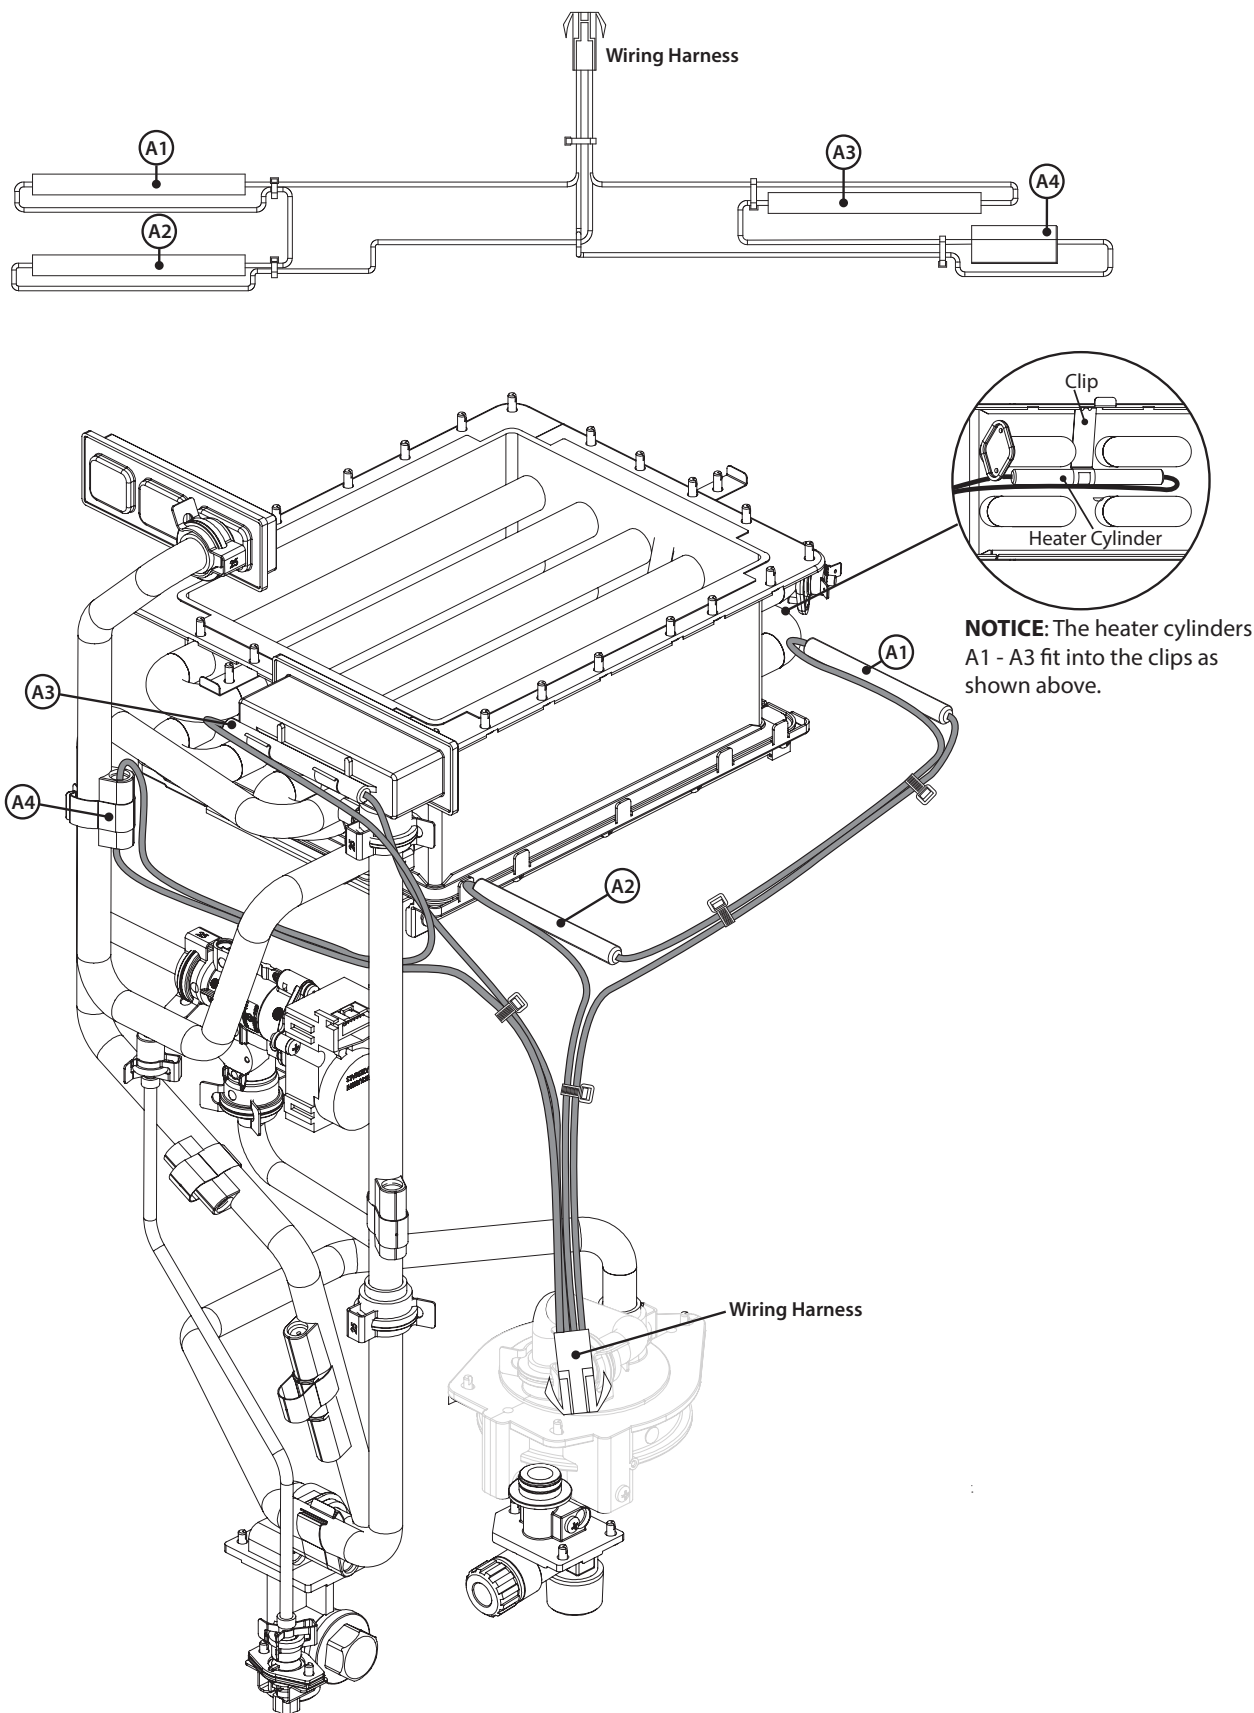

Figure 21 - Upper connection reference guide
- 4 Locate the heater block upper wiring harness. Reference Figure 21 for location.
- 6 Slide the heater cylinders A1 -A3 out from their flexible brackets. See Figure 21.
- 7 Remove the clip securing heater block A4. See Figure 21. Set the clip aside in a safe place for reinstallation.
- 10 Install heater cylinders A1 - A2 as shown in Figure 21. The heater cylinders are held in place by flexible brackets.
- 13 Heater block A4 uses a compression style clip as shown in Figure 21.